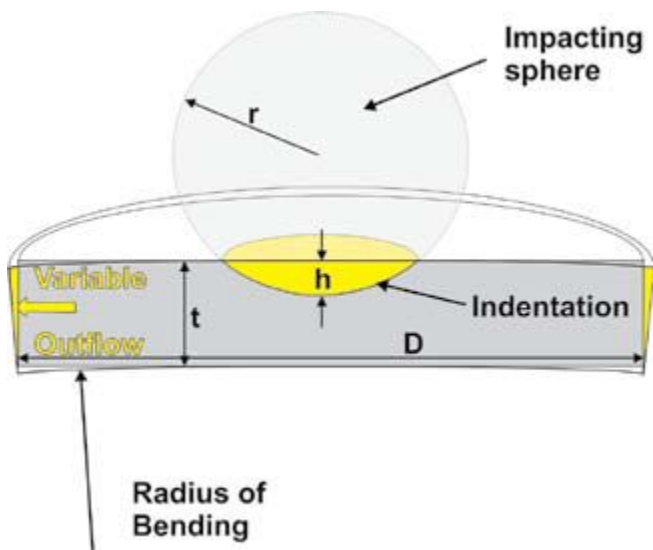

Fig.3. Model of variable outflow generating curvature of a disc element.
Fig.3 represents a thin elementary disc where the outflow component is imagined to be 100% of the total flow. Outflow is not uniform – it is easiest at the extreme surface and becomes more difficult below the surface (setting up the resistance that generates compressive residual stress). An original flat disc therefore assumes a curvature because of the outflow of a peening indentation (dent). The average outflow strain,  $\epsilon$ , varies with the radius of the impacting sphere,  $r$ , the depth of the indentation,  $h$ , the thickness of the disc,  $t$ , and the diameter of the disc element,  $D$ . Equation (1) quantifies these factors.